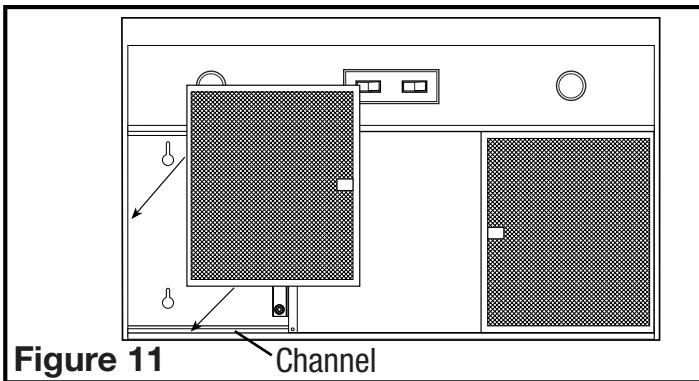

Figure 11 Channel
2. Reinstall the filters by fitting them into the channel on either side of the hood and pushing upwards on them until they are secured in place (**Figure 11**).